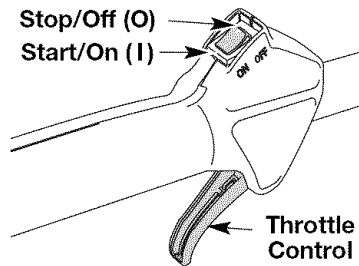

Fig. 3
2. Press and hold On/Off Stop Control in the OFF (O) position until engine comes to a complete stop (Fig. 3)